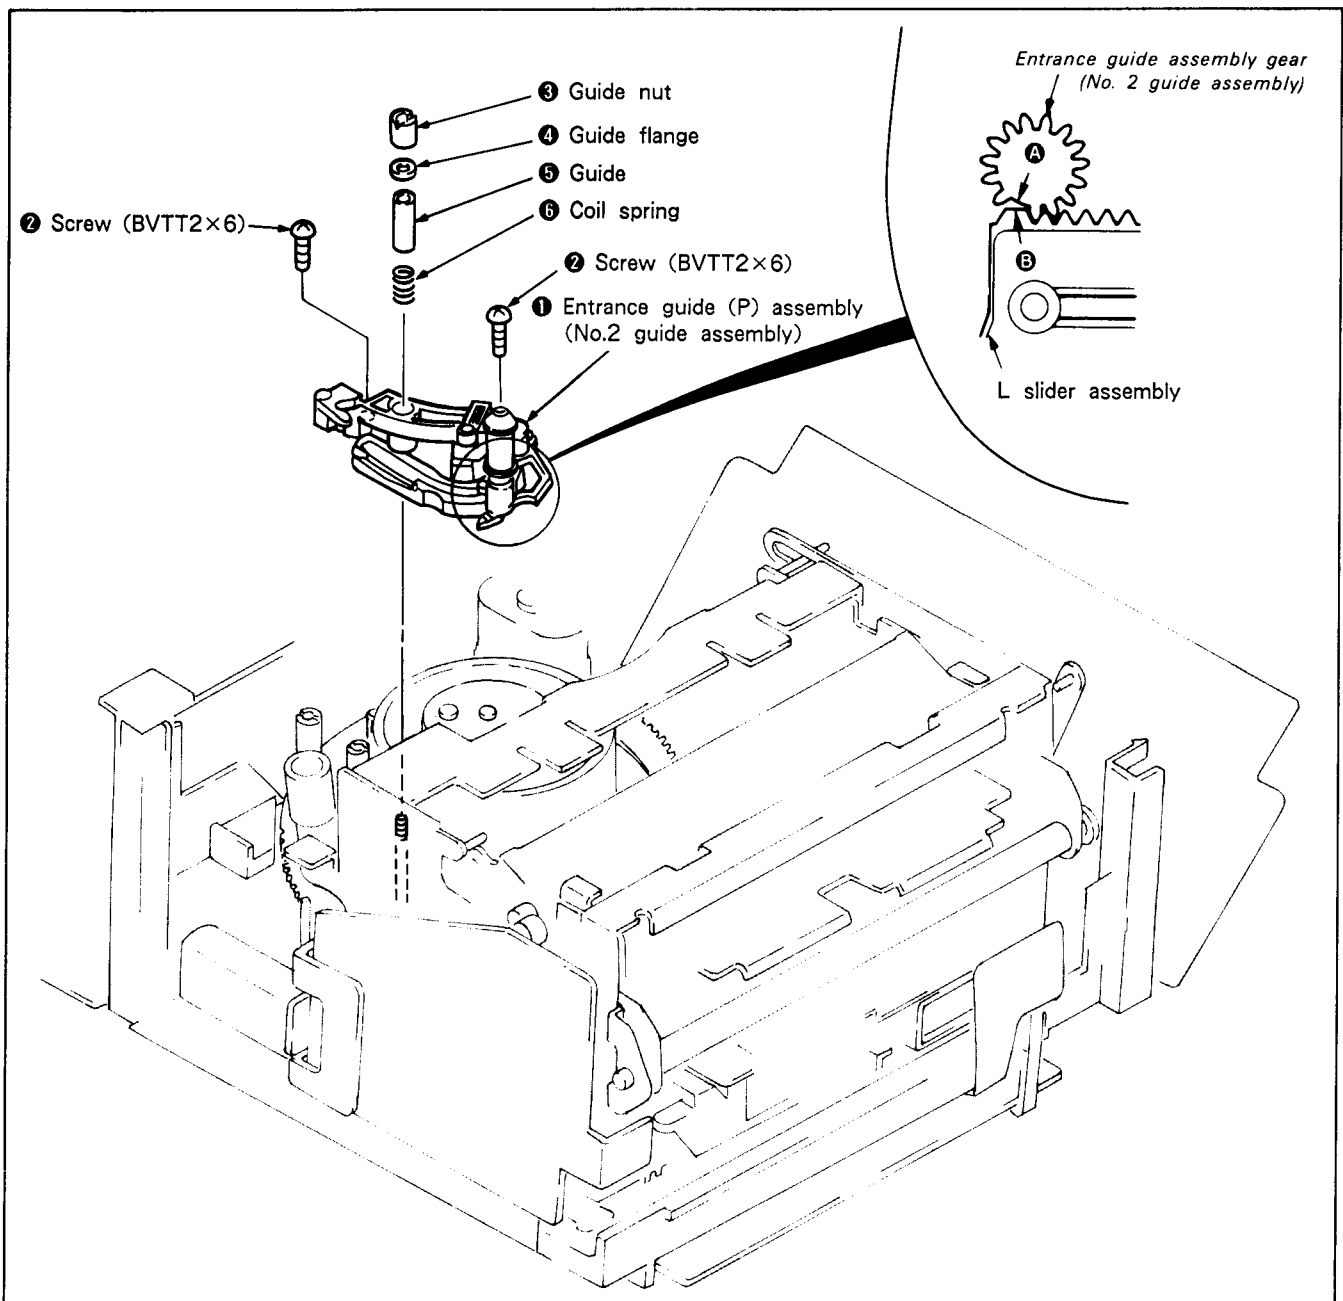

Fig. 7-29.
**1. Removal (See Fig. 7-29.)**
**2. Mounting (See Fig. 7-29.)**